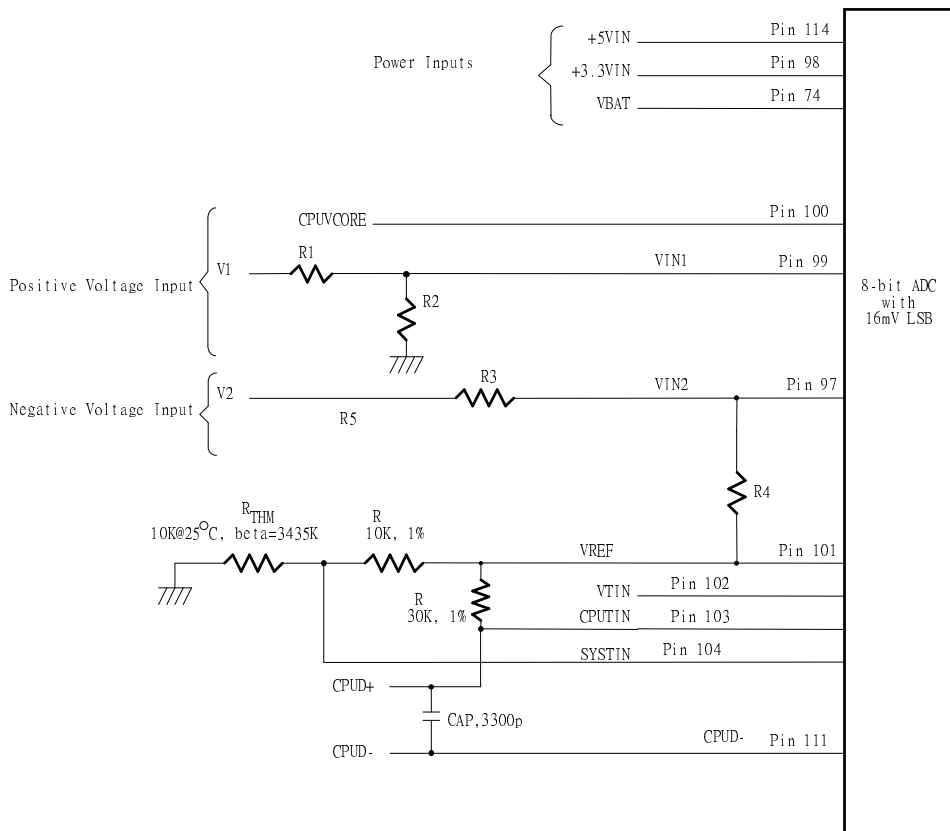

Figure. 6.2
The maximum input voltage of the analog pin is 4.096V because the 8-bit ADC has a 16mV LSB. Really, the application of the PC monitoring would most often be connected to power suppliers. The CPU V-core voltage, +3.3V, battery(pin 74) can directly connected to these analog inputs. The +12V voltage inputs should be reduced a factor with external resistors so as to obtain the input range. As Figure 6.2 shows.
The W83637HF can connect three thermistors to measure three different envirimnt temperature. The specification of thermistor should be considered to (1)  $\beta$  value is 3435K, (2) resistor value is 10K ohms at 25°C. In the Figure 6.2, the themistor is connected by a serial resistor with 10K Ohms, then connect to VREF (Pin 101).